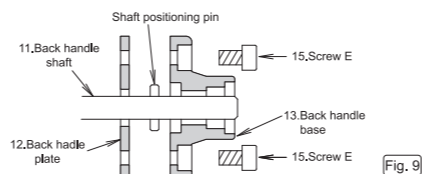

Fig. 9
- Align the back handle plate, back handle shaft, and the back handle base as shown below,and fasten using two Screws E (Fig.9).